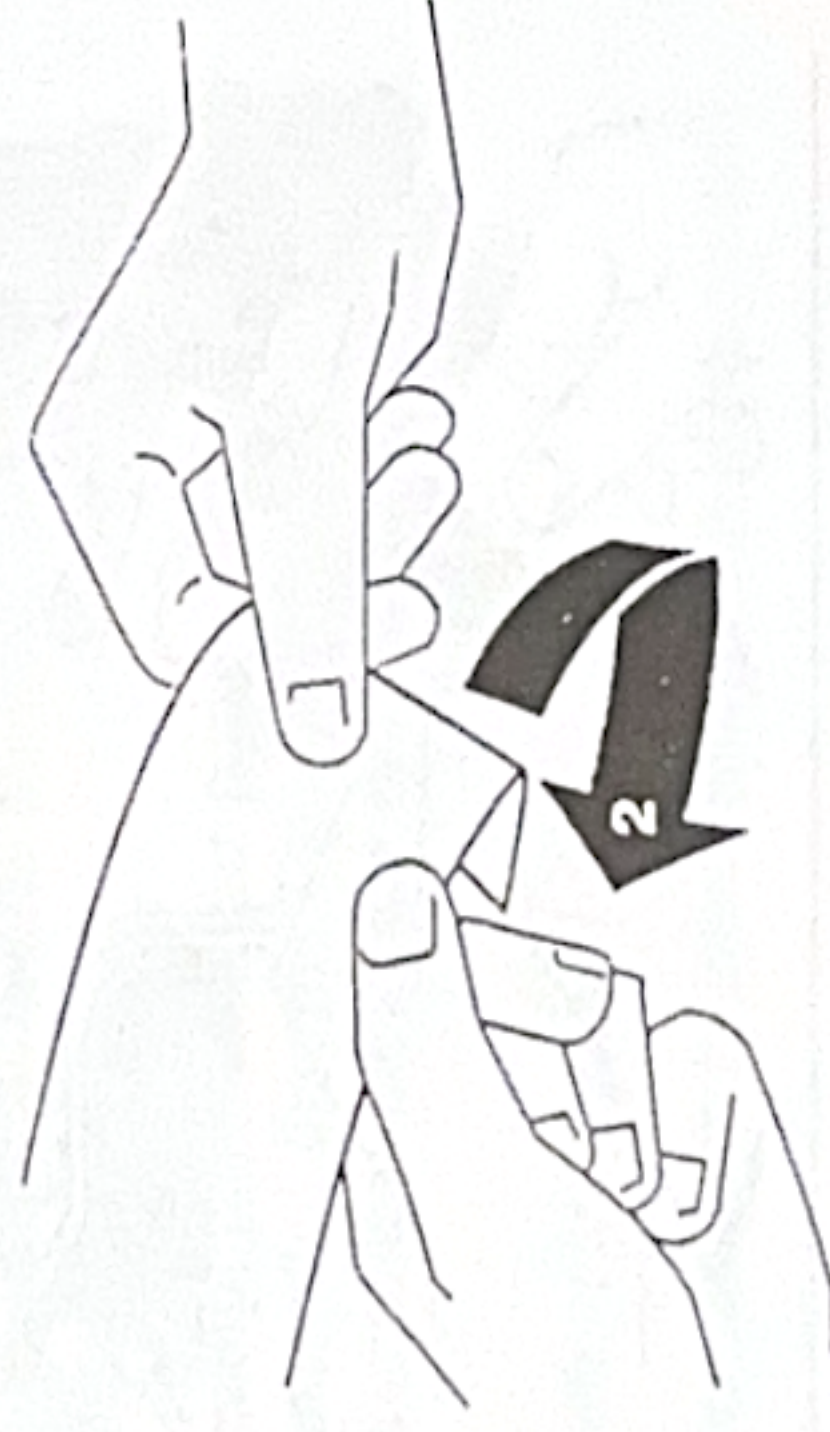

Figure 1-28
2. Fold about 1/2 inch of the paper, but do not tightly crease. (see figure 1-28)